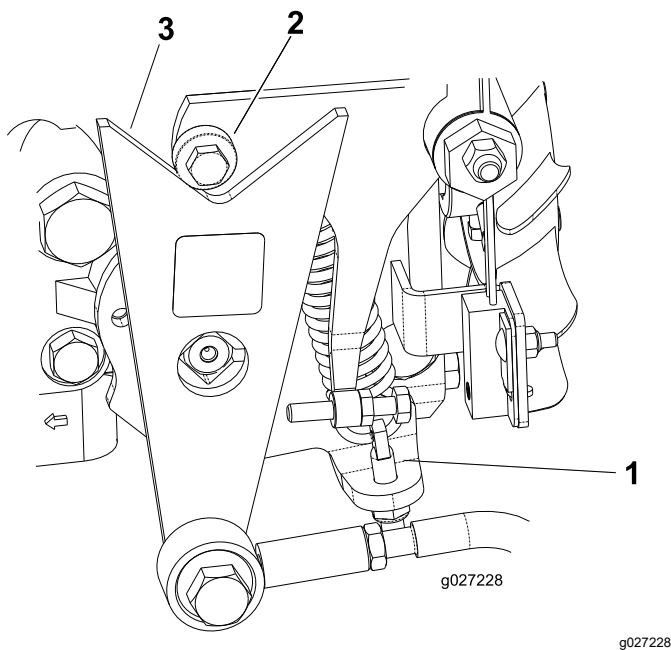

Figure 43
- If the wheels rotate in the proper direction, stop the engine and adjust the spring-adjusting pin locknut (Figure 43). Adjust the traction neutral position; refer to Adjusting the Traction Drive for Neutral (page 31).